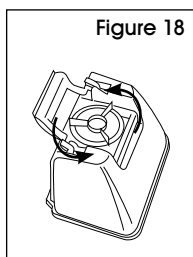

Figure 18
1. Carry tank to a sink. Rotate tank cap counter-clockwise and lift up to remove. (See Figure 18)